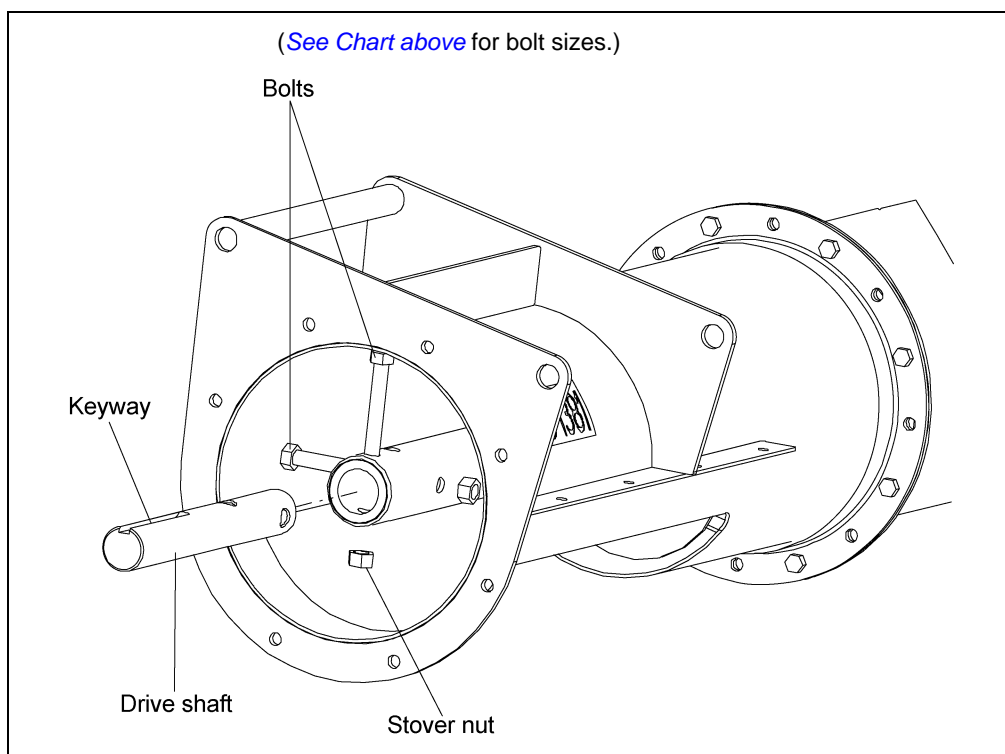

Figure 4A
1. Insert the drive shaft into the opposite end of flight with keyway facing outward. Align the holes in the shaft and secure with grade 8 bolts and stover nuts. (See Chart below and Figure 4A.)